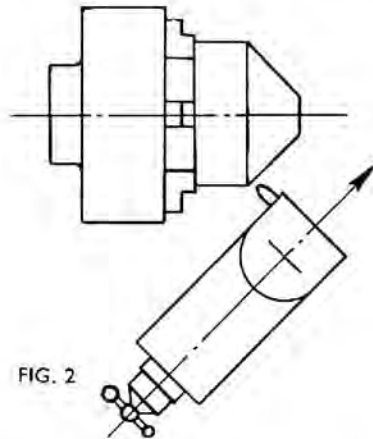

FIG. 2
**Methods of Taper Turning and Boring.** Three general methods are applicable. (1) As shown in fig. 2, by means of swivelling the compound rest to the angle required for either boring or turning. This method is by hand traverse of the tool, and is limited to the